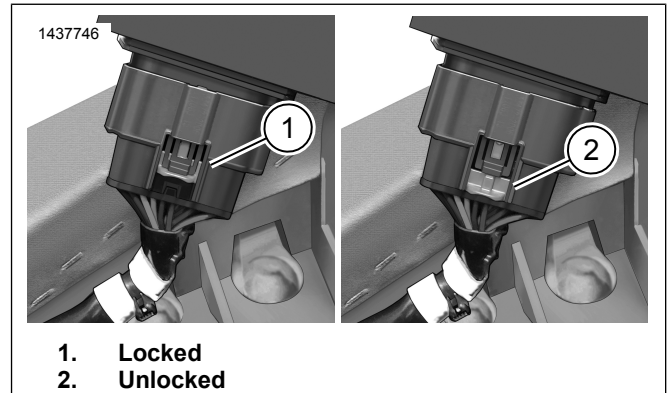
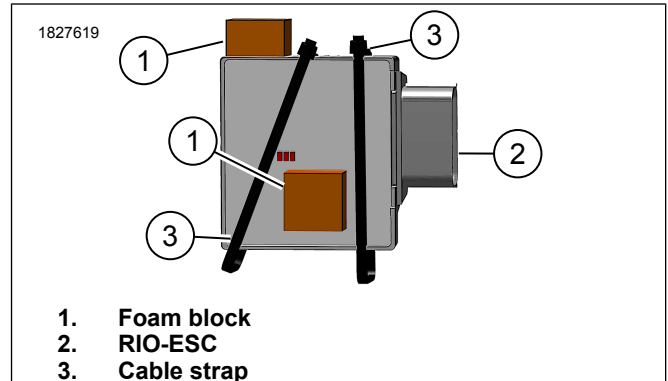

Figure 5. RIO Connector Locked/Unlocked Position
Figure 6. Install Foam Block to RIO
5. See Figure 5. Unlock (2) RIO-ESC connector and disconnect.
6. See Figure 6. Install foam blocks (1) to RIO-ESC (2).
- b. Install foam blocks (1) under LED lights and on top corner.
7. See Figure 5. Connect RIO-ESC to wiring harness and lock (1) connector.